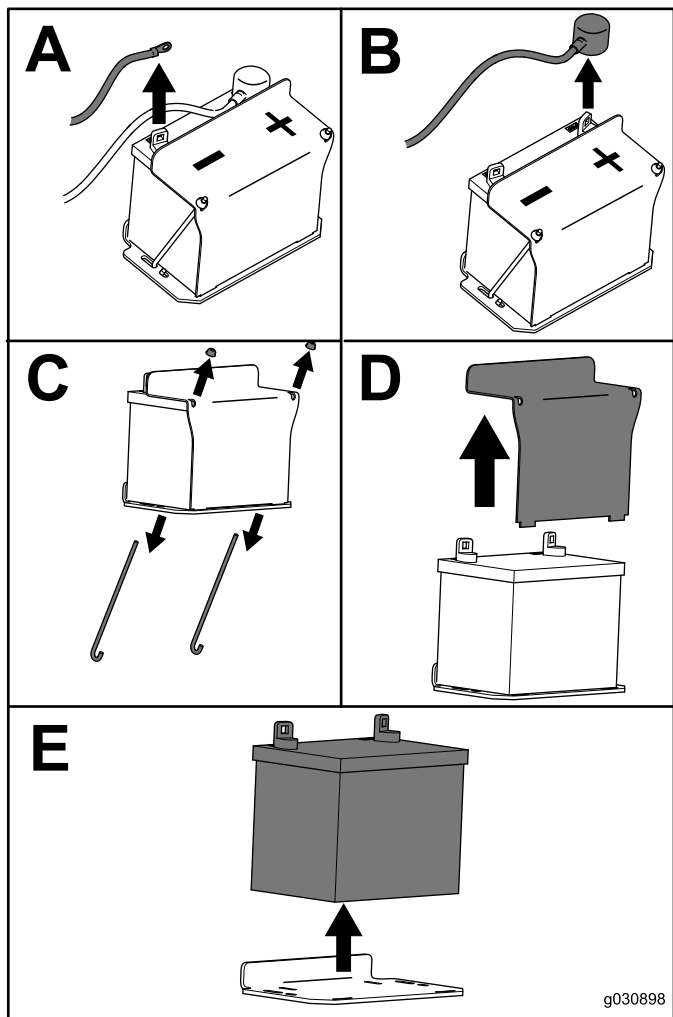

Figure 46
3. Remove the battery as shown in Figure 46.